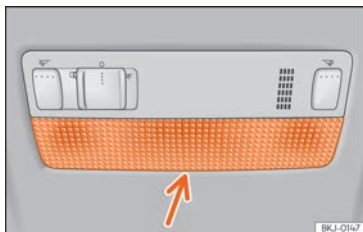

Fig. 56 Front reading light.
- Insert a fine screwdriver between the casing and the glass » **Fig. 56**.